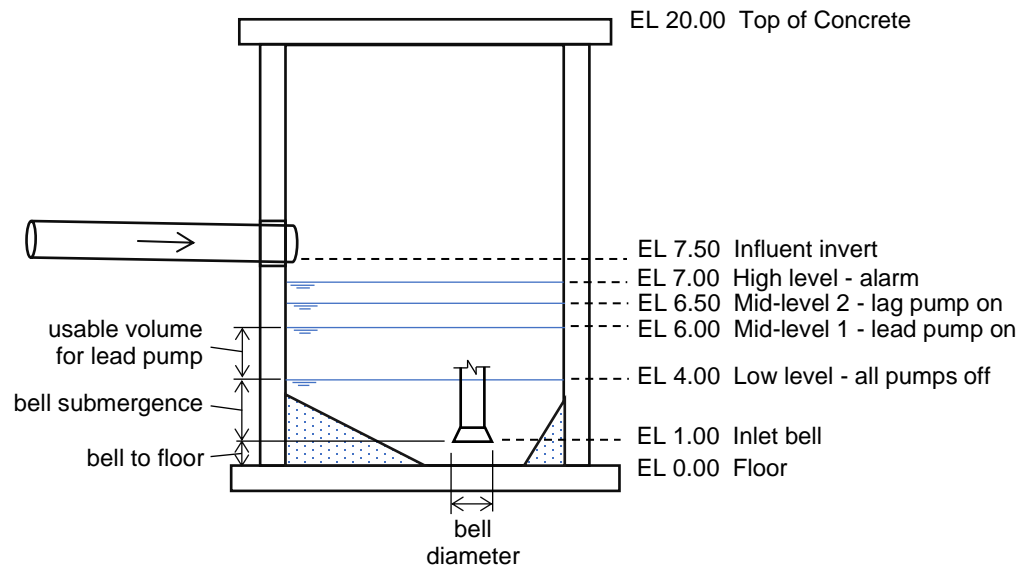

Figure 20: A 20-foot deep wet well with important elevations defined.
- Defining pump control levels. See Figure 20 for an example.